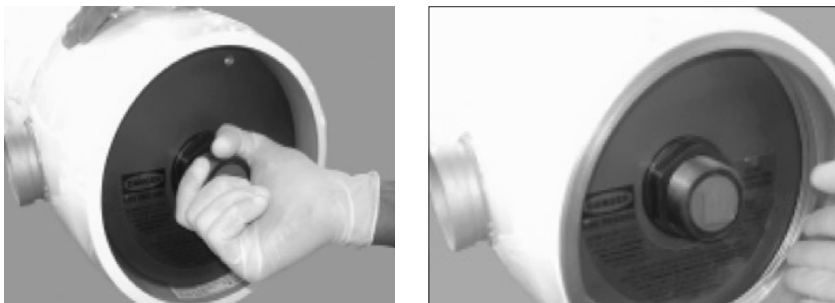

Figure 14
- Begin installing the retaining ring into the groove as you rotate your hand around the inside of the shell. See **Figure 14**.